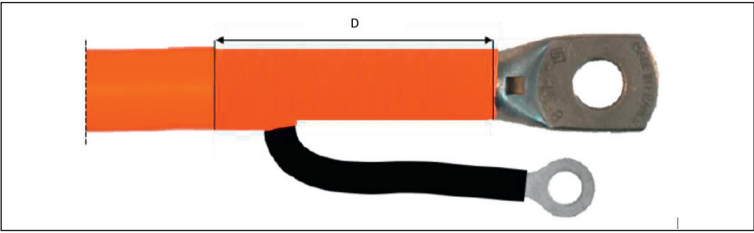

Fig. 7-18: Single-core HV power cable: stripped section (D)
- ☞ Double-wrap the stripped section on the HV power cable (Fig. 7-18, D) with insulating tape.